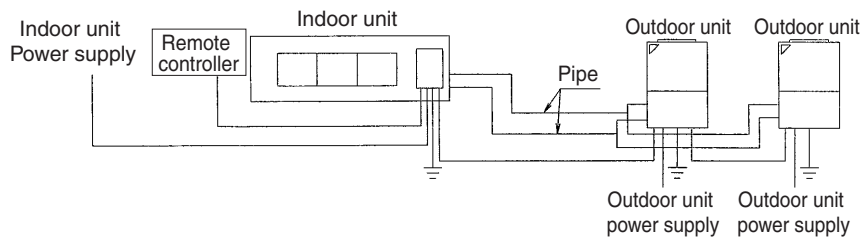

Fig.1
- Do not use in any combination other than those shown below. (Refer to Fig. 1)